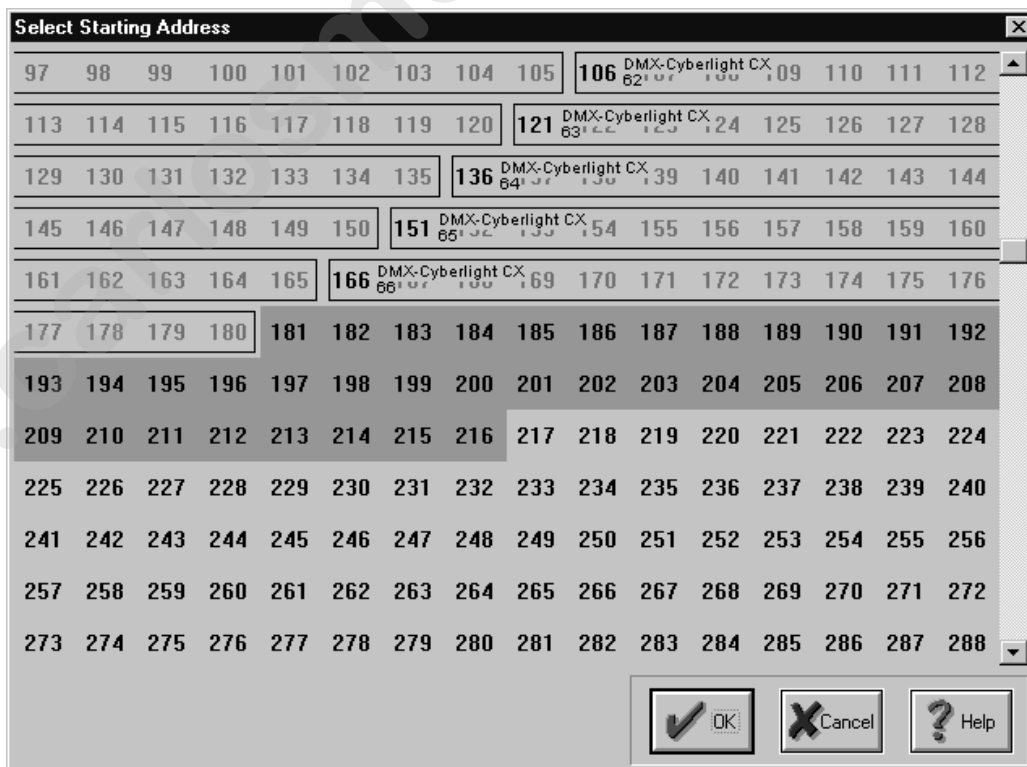

Figure 4.14. Select Starting Address Dialogue Box for DMX Links
5. In the **Select Starting Address** dialogue box, click on the box where you wish the address to start at. *Status Cue* will automatically set the appropriate number of channels from the selected fixtures. Refer to Figure 4.14. The following color scheme is used: